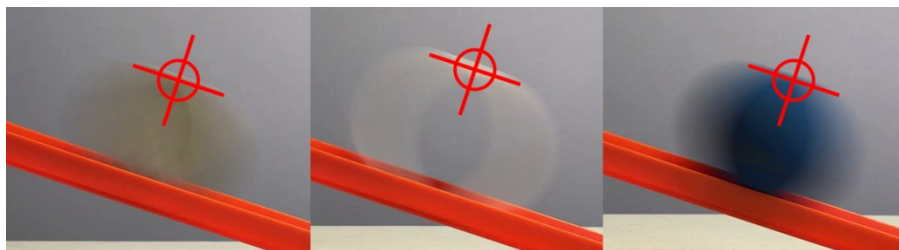

Fig. 5: Track the top edge of the rolling objects. Look for an intersection point where the blurred images overlap.
8. You will notice that the object is blurred in front and behind in the direction of motion. This makes it difficult to track a single point on the object. One way you might do it is to track the top edge of the object. This works well for rolling objects as the blurred image in front and behind creates an intersection point that is often visible (see Fig. 5).